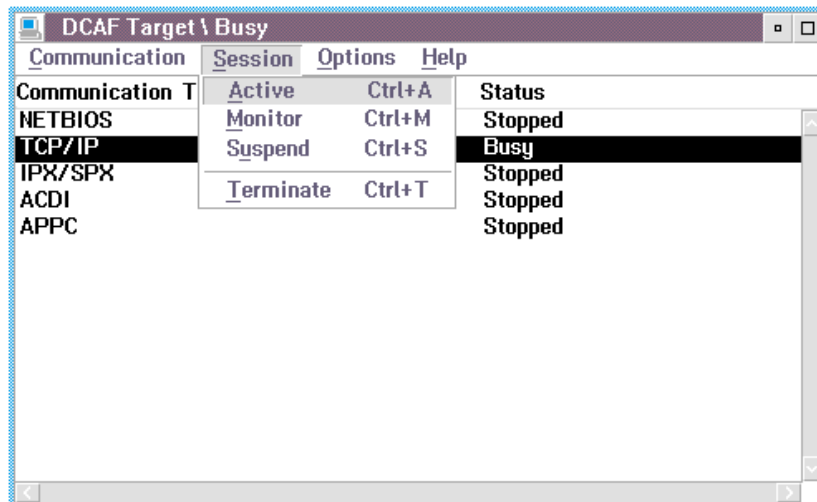

Figure 163. Active Session
3. From the DCAF target window, select the session window and select **Active** or **Monitor**. See Figure 163 on page 255.